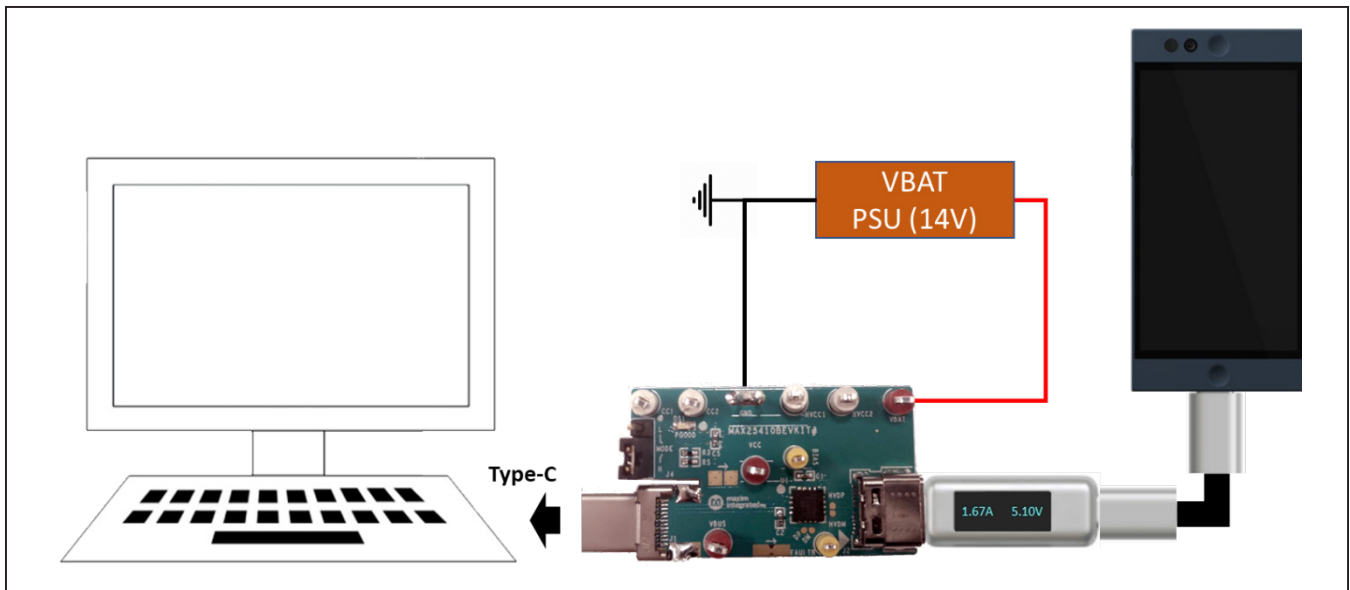
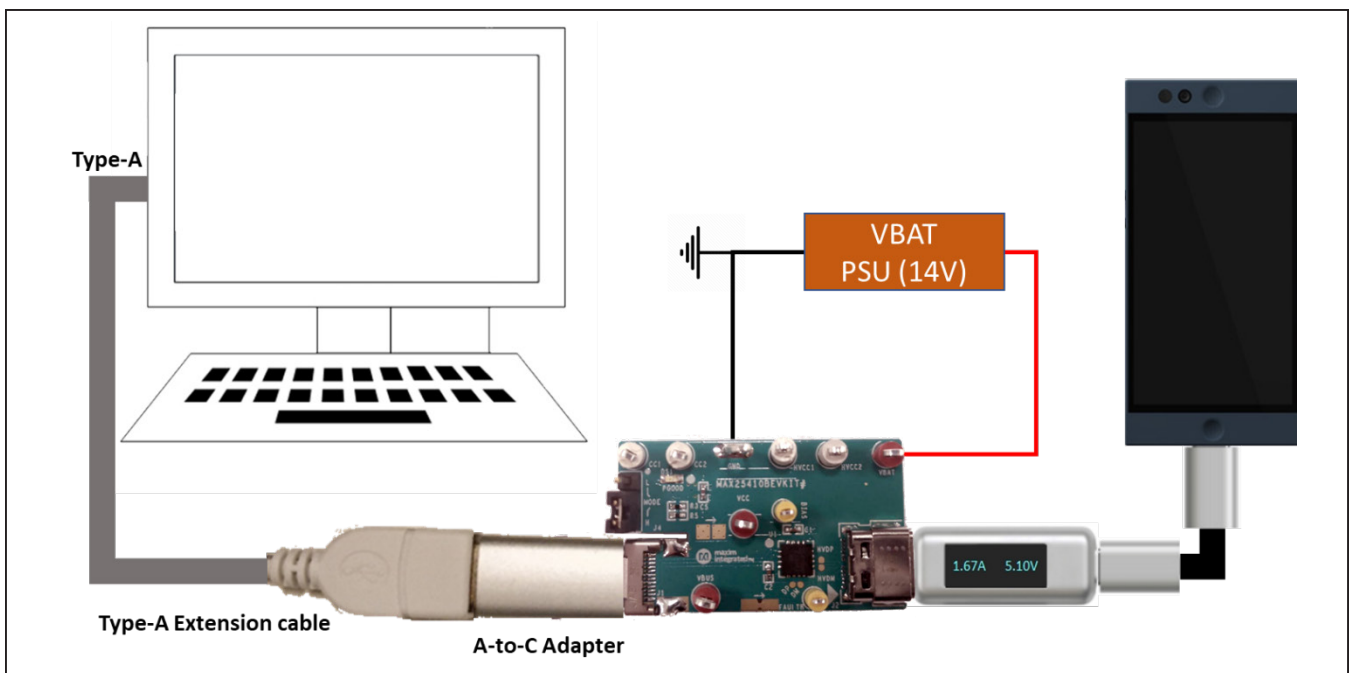

Figure 7. Auto-DCP Setup (Type-C Downstream Port)
Figure 8. Auto-DCP Setup (Type-A Downstream Port)
- 1.5A or greater Type-C or Type-A downstream port. If Type-A, an A-to-C adapter and extension cable (1m or shorter) are needed. See the example setups shown in Figure 7 and Figure 8.